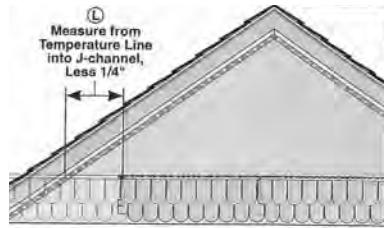

Fig.26
b. Measure distance from correct line on temperature gauge into the gable end trim, less  $\frac{1}{4}$ " (see "L" on Figure 26).